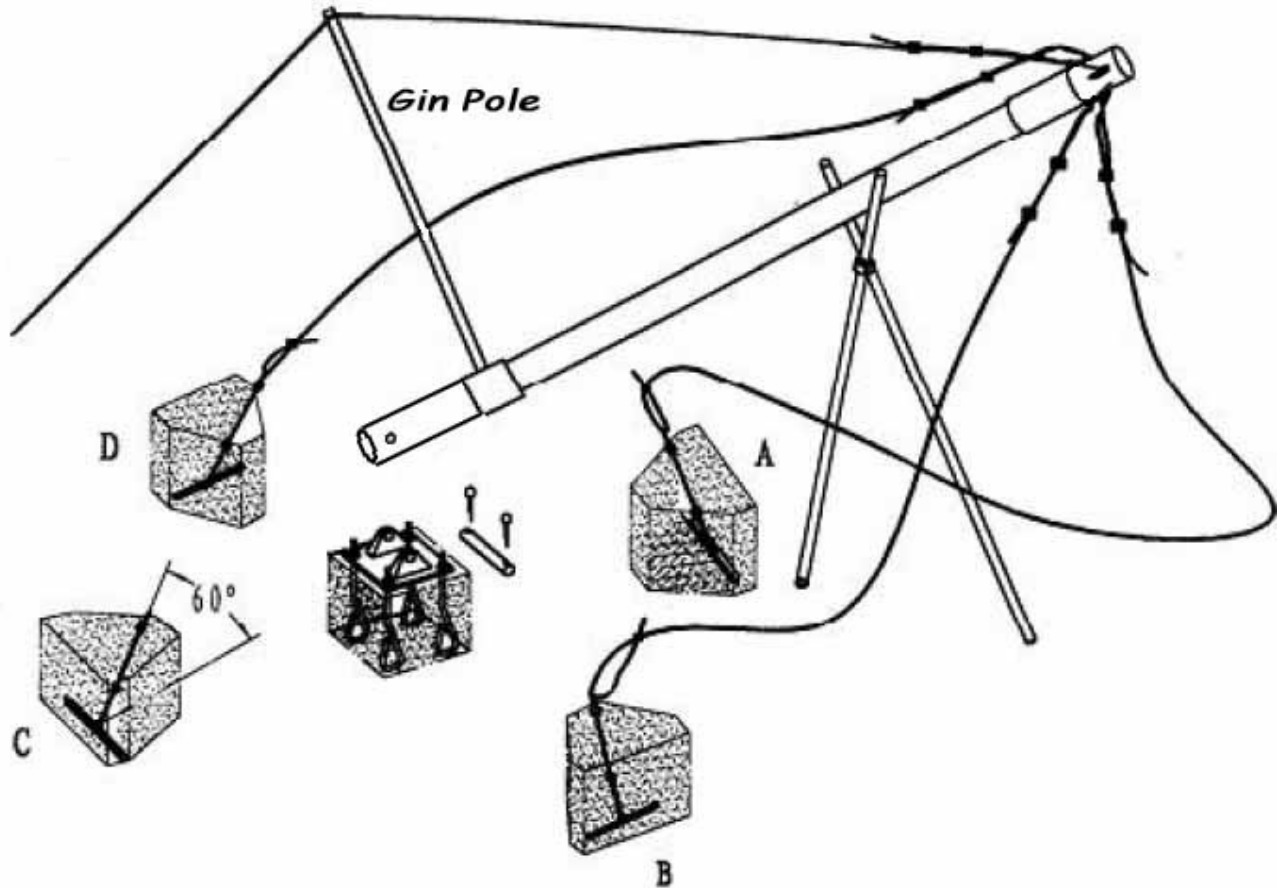
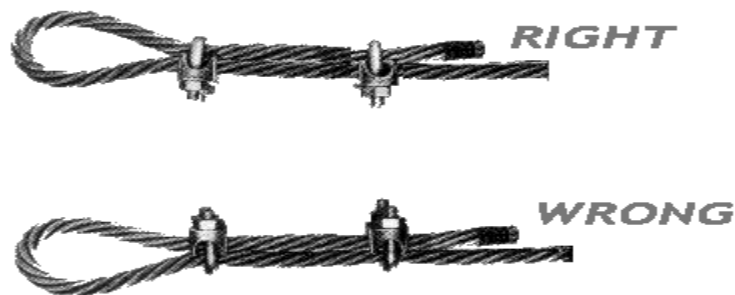

Figure 6
Figure 7
14. Adjust the guy lines to the correct length. The wires should be assembled as shown in Fig. 6. Attach all top guy lines to the anchor points on the tower. Only attach 3 of the guy lines (A, B and D) to the anchor points. The fourth (C) will be used to raise the tower. For safety, ensure that the U bolts are installed as shown in figure 7. Wrap the dead end of the cable in electrical tape to reduce the chance of being cut by metal slivers from the cable.